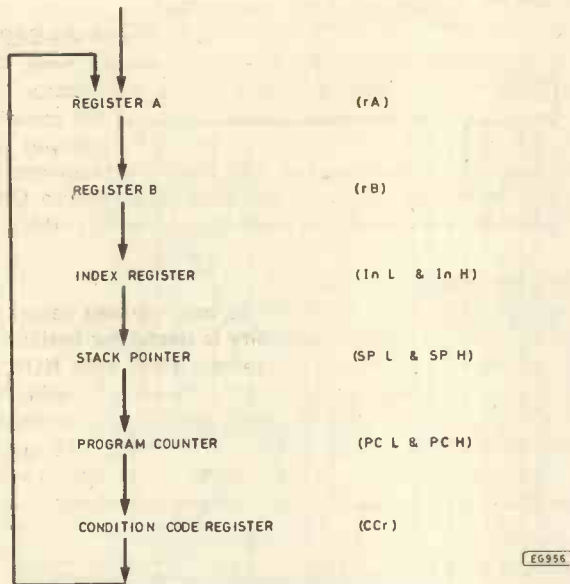

Fig. 1.8. Register display sequence.
The user may examine the contents of any of the 6800's registers after a breakpoint has been encountered. The REGISTER key is used to invoke the register editor, and changes may then be made before the program proceeds from the current breakpoint. Registers are displayed in a cyclic fashion, as shown in Fig. 1.8. The 16-bit registers are displayed in two stages, lower and upper bytes in turn. Other editing facilities are similar to those in the memory editor.
7) Remove the key tops marked "-" and "1/2" and replace them in the positions shown in Fig. 1.8. The key top which they replace should be relocated to fill the two gaps. The keys should all be labelled as shown in the diagram.